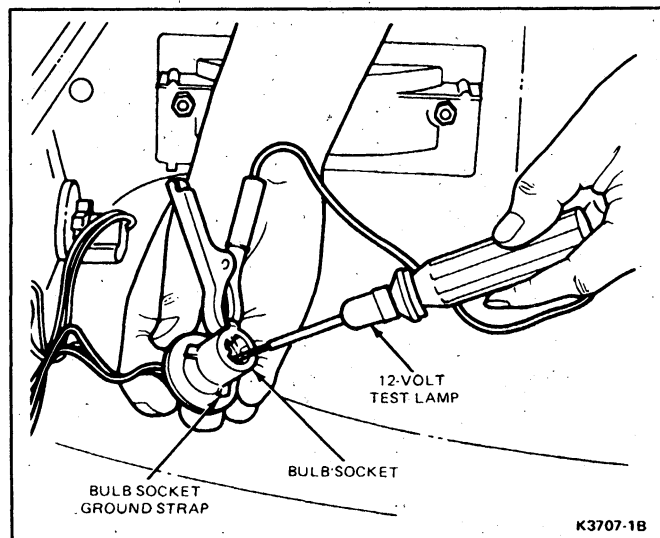

FIG. 10 Bulb Socket Ground Test
3. Connect 12-volt test lamp to ground strap on lamp socket (Fig. 10).